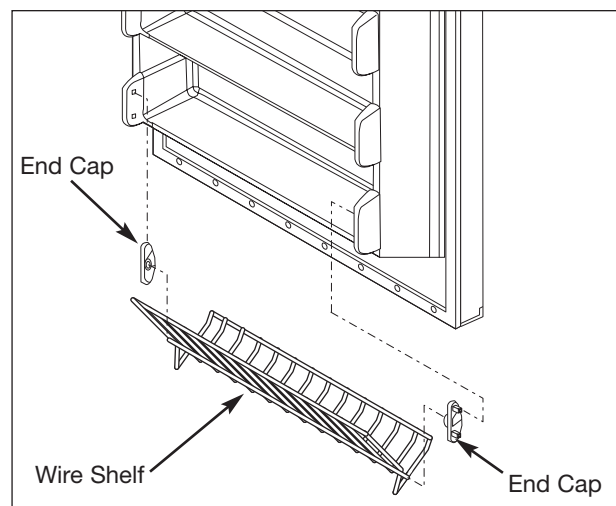

Figure 5-9. Tilt Out Wire Shelf Removal
1. Flex the inner panel outward and lift the wire shelf out of the end cap. Then pull the opposite end of the wire shelf out of the opposite end cap. (See Figure 5-9)